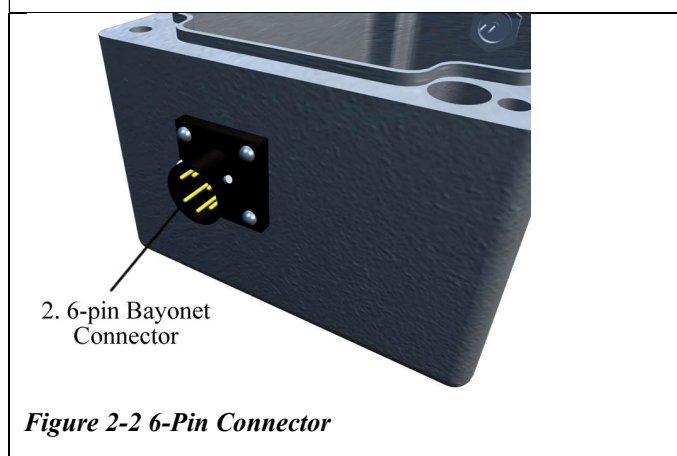

Figure 2-2 6-Pin Connector
2. A 6-pin circular connector (Figure 2-2) is used to attach the instrumentation cable to the AWP-24-3. The instrumentation cable carries power to the electronics and carries the high-level output signal from the electronics to a remote data acquisition system or data recording device. The pin-out information for the connector and the instrumentation cable is shown in Table 2-1 below.